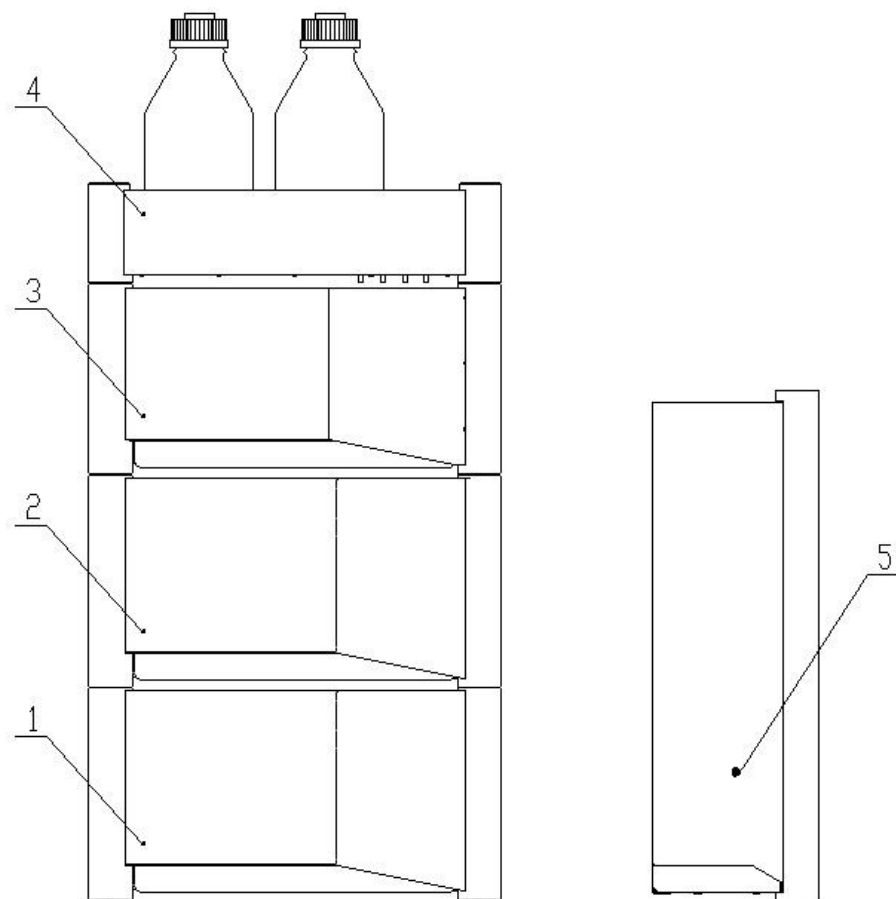
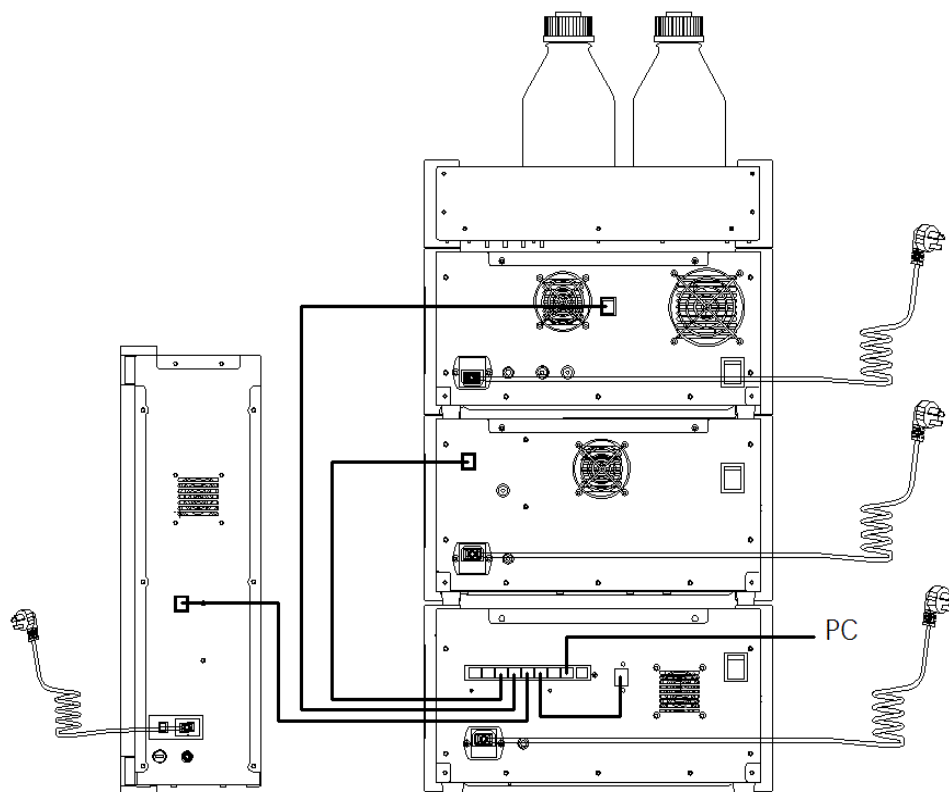

Fig 2-1 Recommended Stack Configuration for EClassical 3200L
Fig 2-3 EClassical 3200L system communication
In order to guarantee the best working state of the instrument, it is recommended that the instruments should be stacked as shown in Fig 2-1.
- 2 Communication management of EClassical 3200L system is completed by P3200L infusion pump, via LAN cables. Communication and power connection is shown as Fig. 2-3.
- 1) Lay the detector as Fig 2-1 and Fig 2-3.